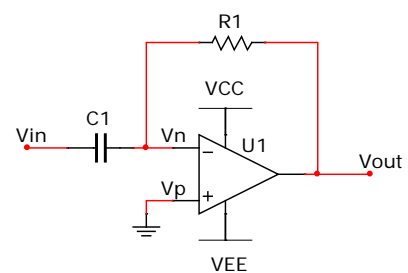
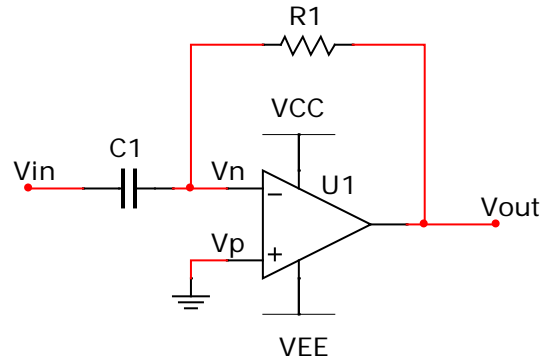

Figure 3. Simple differentiator.
Figure 15. Simple differentiator.
- Analyze the differentiator circuit in figure 15 (same as figure 3) to derive an equation for $V_{out}(t)$ as a function of $V_{in}(t)$. Show that the output is the derivative of the input.